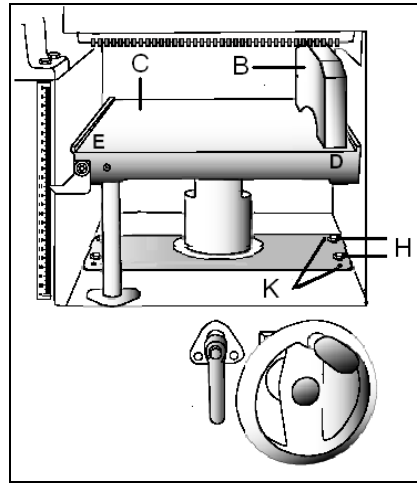

Fig 11
Use a gauge block (B) and gently rise the table (C) to inspect (Fig 11).